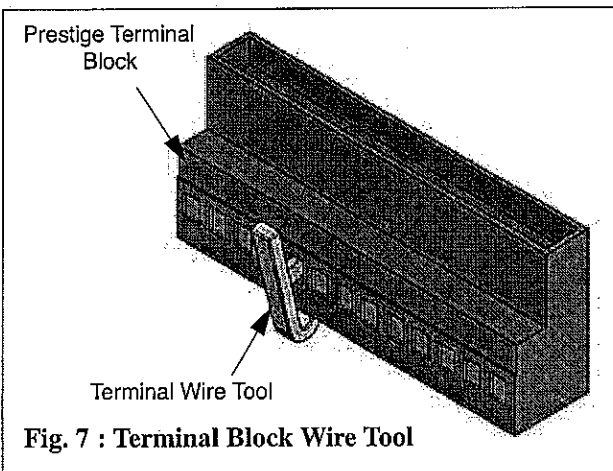

Fig. 7 : Terminal Block Wire Tool
2. Use the Terminal Block Wire tool to open the retaining clips of the terminal block as shown in Fig. 7.